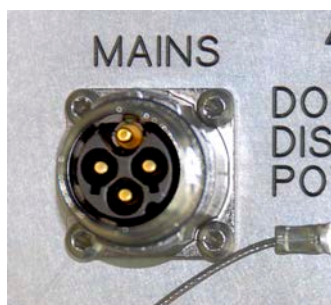

figure 4-15 Mains power connector
7. Unscrew the protective cover from the Mains connector of the EU (*figure 4-15*).